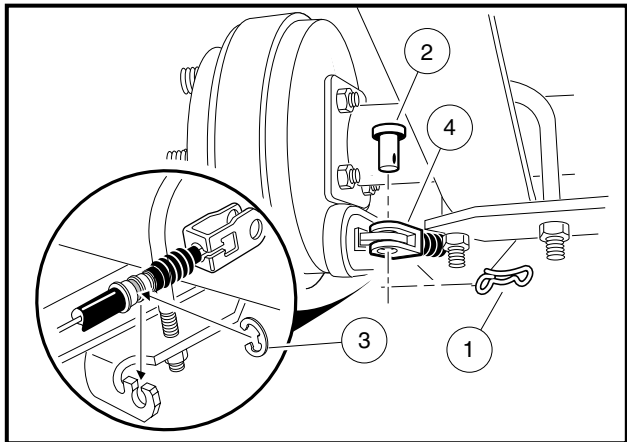

Figure 16b-8 Disconnect Brakes
5. Disconnect the shock absorbers from their lower mounts (**Figure 16b-9, Page 16b-6**).